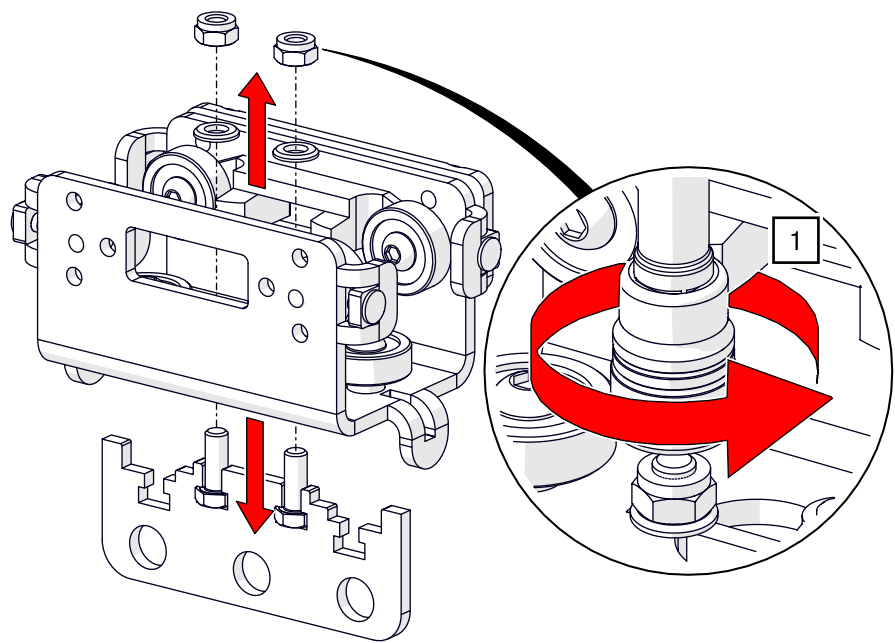

Fig. 64: Overlap arm – Release fabric suspension
1. Release the fabric suspension on the master runner by loosening the two nuts with a ratchet and socket AF 10 (see Fig. 64).